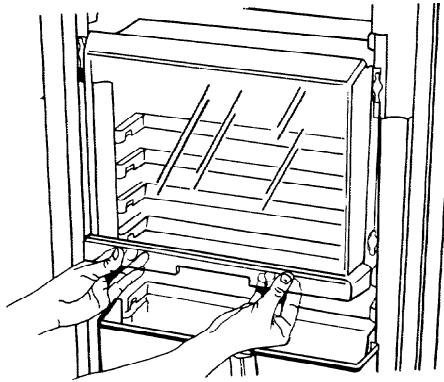

FIGURE 66
2. Slide door down and out through the bottom of the track. See Figure 66.